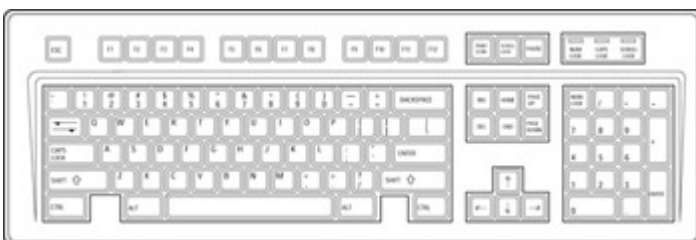

Figure 12-3: The AT Enhanced keyboard.
- 1 **Enhanced (also known as AT Enhanced):** 101 keys, including 12 function keys, separate cursor and screen control keys, and a numeric keypad (see Figure 12-3). This style keyboard may even include buttons for controlling a CD-ROM drive, the sound, and other built-in features of the PC. Enhanced is still the most common keyboard type in use.